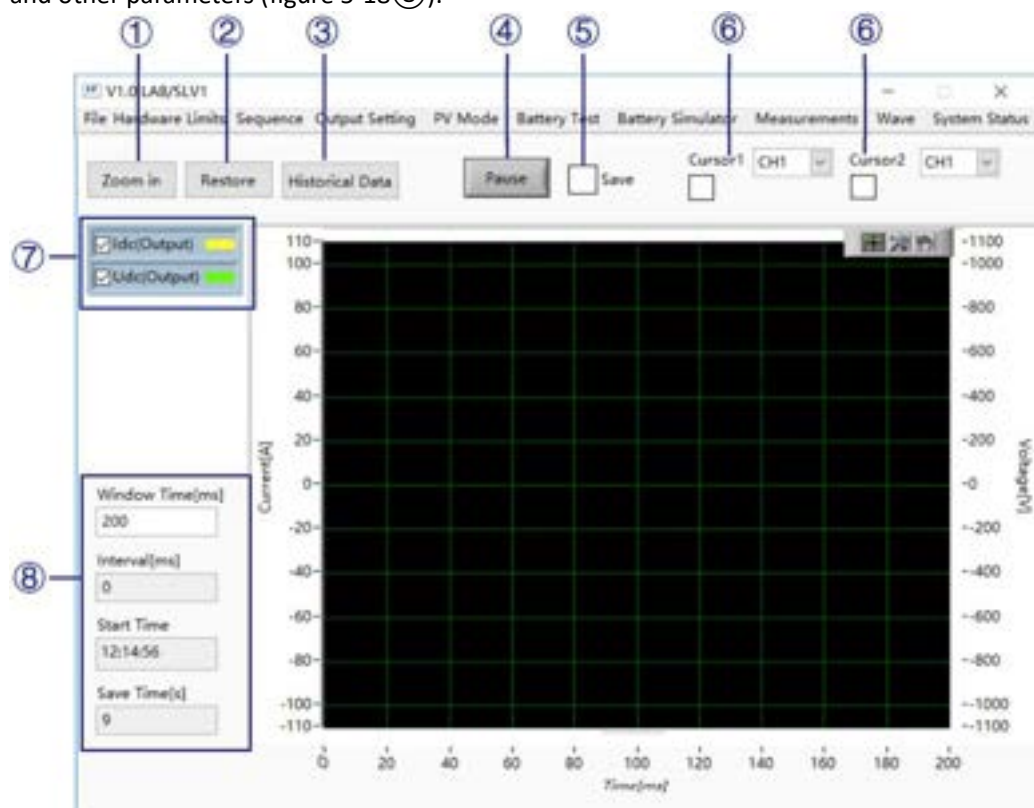

Figure 5-18 Wave Panel
Click "Wave" to enter the panel (figure 5-13). In the waveform browsing window, the user can individually or simultaneously select the data of Idc or Udc (figure 5-18⑦) to browse its waveform. In addition, the user can also set the waveform data point window display time, sampling time interval and other parameters (figure 5-18⑧).